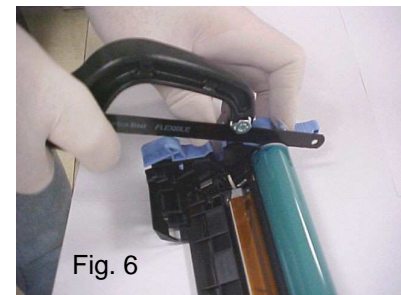

Fig. 6
7. Use a standard hack saw blade, spread the blue plastic end section away from the drum and cut through the drum end by turning the drum and cutting. Remove the drum (Fig. 6).